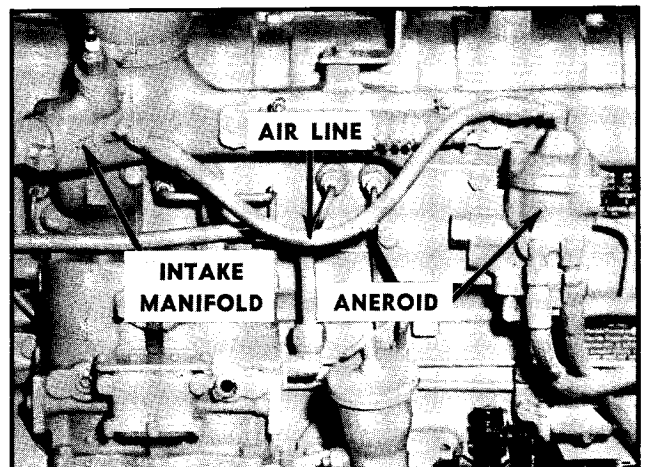

Fig. 12-85. Aneroid to air intake manifold line
6. Install line from aneroid-to-air intake manifold. Fig. 12-85.